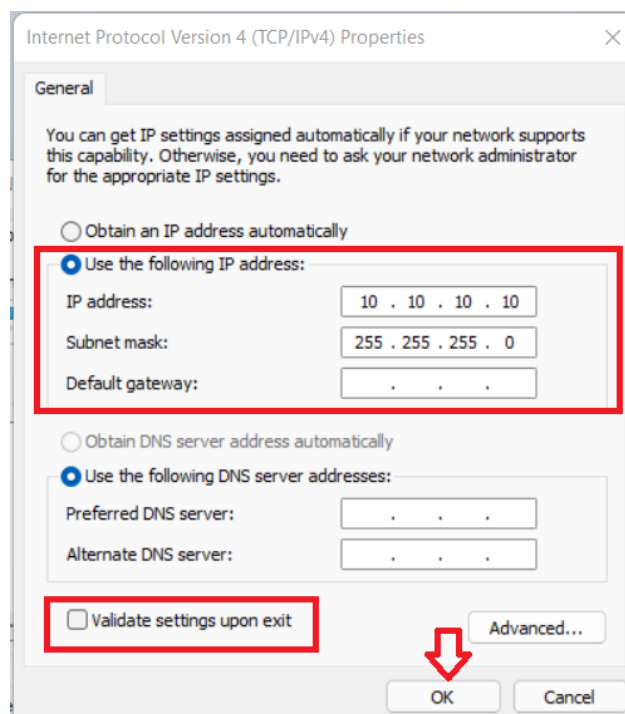

Figure 18: Network settings that need to be set prior to running the machine
- 5- On the pop-up Internet Protocol Version 4 (TCP/IPv4) properties window select the “Use the following IP address” option and fill in the IP address of the CNC Controller and set the Subnet mask as shown. The default IP address of the is 10.10.10.10 (this can be changed, refer to the CNC Controller manual for more details) and set the subnet mask to 255.255.255.0 value. Figure 18 shows the IPV4 network IP address that needs to be set.